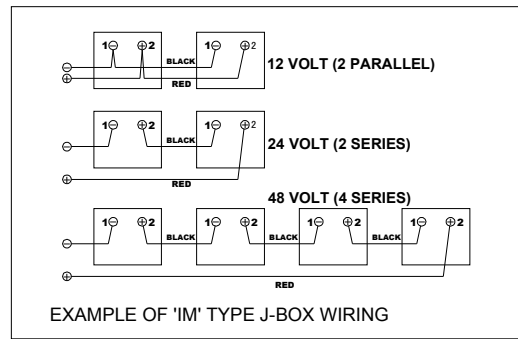

Figure 3. Standard Wiring Examples
As shown in Figure 3 Standard Wiring Examples, Kyocera PV modules utilize the Type "IM" junction box (see J-box details). This junction box, located on the back side of the module, is weatherproof and is designed to be used with standard wiring or conduit connections. A cable clamp with a minimum rating of IP65 must be used to maintain the weatherproof integrity of the junction box. Bypass diodes are preinstalled at factory.
- A. Determine the nominal system array voltage of your system. Each panel is equivalent to a 12 VDC nominal block. Standard array voltages 12, 24 and 48 volt are shown as examples in Figure 3.